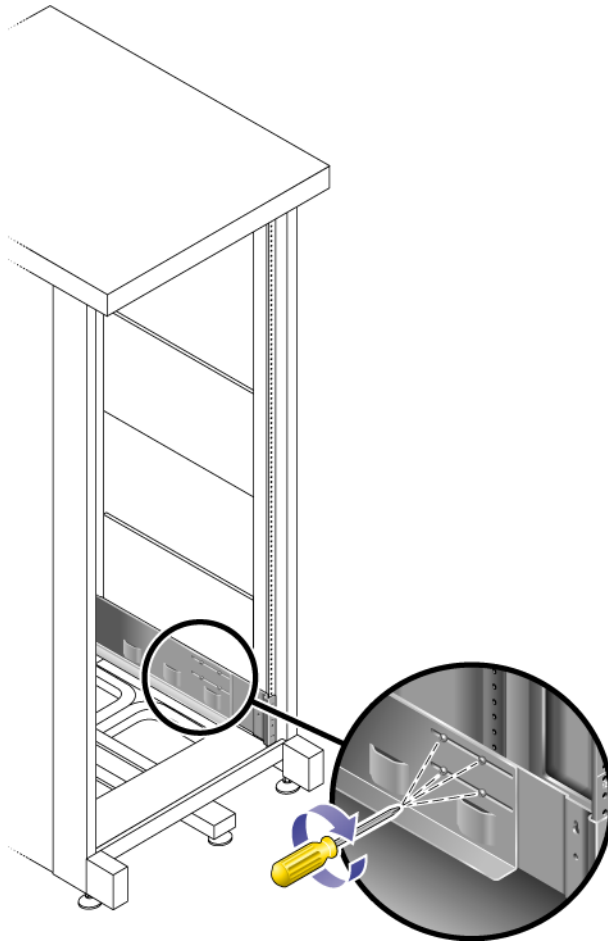

FIGURE 2-19 Tightening the Rail Adjustment Screws
2. Using the #2 Phillips screwdriver, tighten the eight adjustment screws (four on each side) at the back of each rail (FIGURE 2-19).